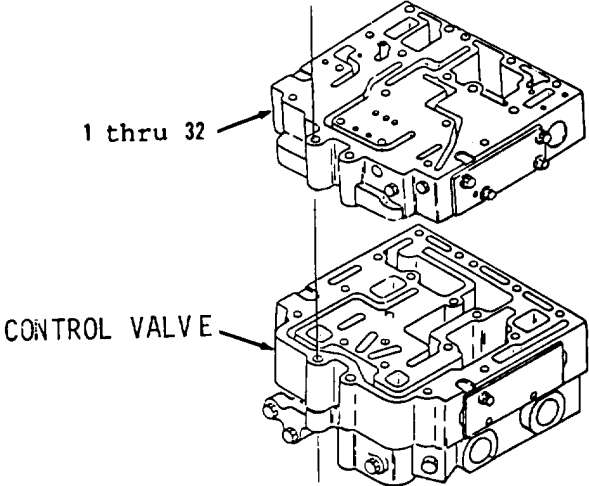

Figure 14-91.
1. Remove items 1 thru 33 as an assembly (Figure 14-91) from control valve.